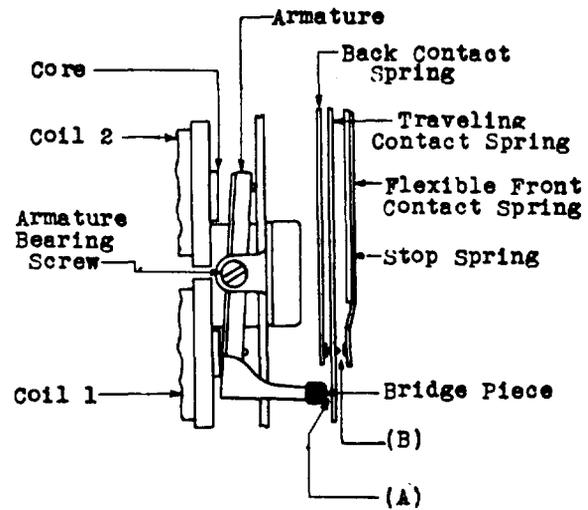

Fig. 3
- 2.12 Stud Gap - Fig. 3 (A) -** On relays equipped with back contacts, there shall
- 2.13 Contact Separation - Fig. 3 (B) -** The separation between any pair of contacts normally open or between any pair of contacts that are opened when the relay is operated shall be Min. .003" Use the No. 74-D gauge.